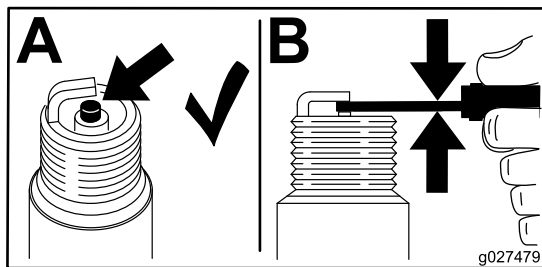

Figure 36
1. Inspect the spark plug (Figure 36).
2. Check the gap between the center and side electrodes (Figure 36). Bend the side electrode if the gap is not correct.